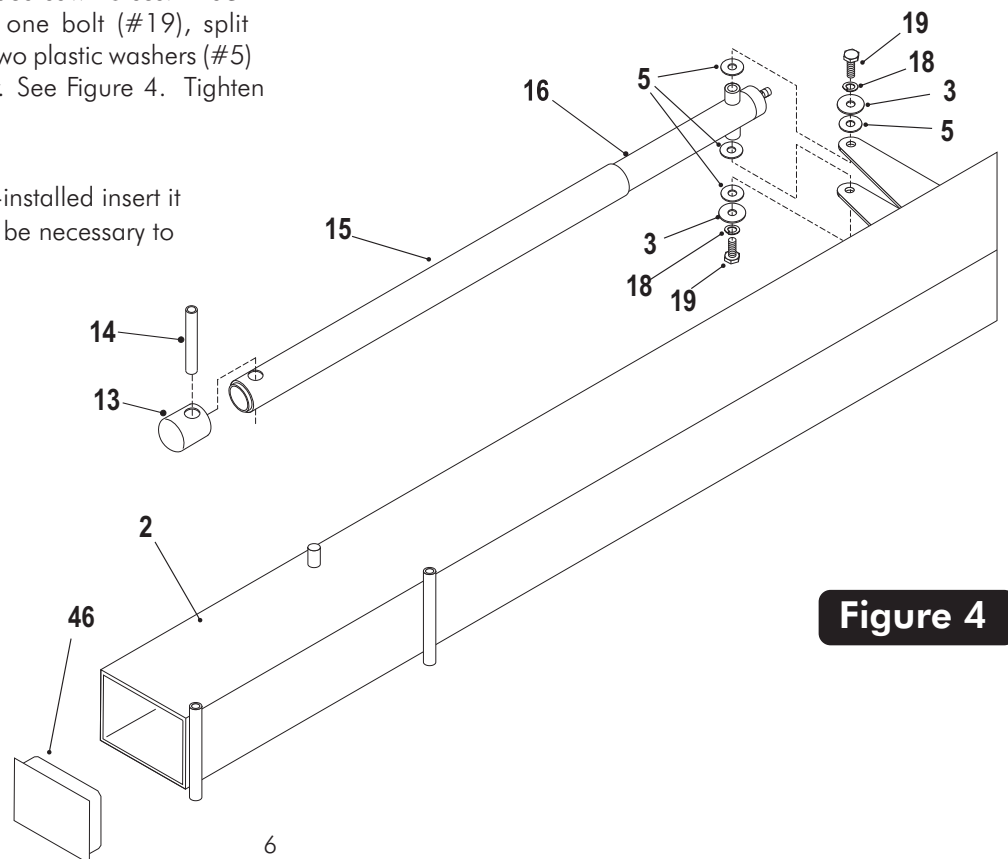

Figure 4
2. Slide Actuator Sleeve (#15) over Actuator (#16) and place Actuator Cap (#13) on top. Align holes in all 3 parts and slide Pivot Tube (#14) through holes in Actuator Cap (#13) Plastic Actuator Sleeve (#15) and Steel Actuator (#16) until equal amounts stick out through both sides of actuator. See **Figure 4**.
3. Lay Pole (#2) on its side on two padded saw horses. Attach Actuator (#16) to Pole (#2) using one bolt (#19), split lockwasher (#18), washer (#3) and two plastic washers (#5) to thread into each side of Actuator. See Figure 4. Tighten bolts tight.